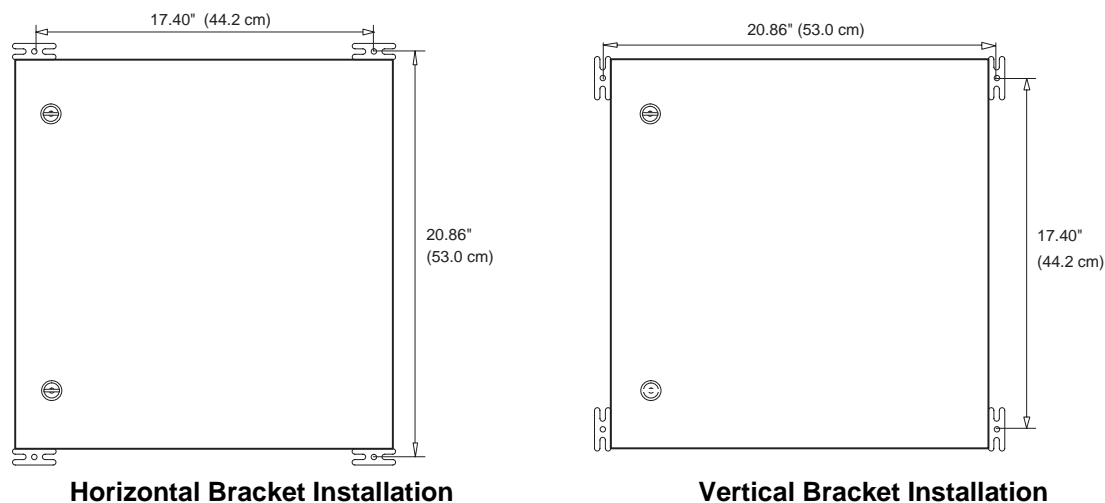
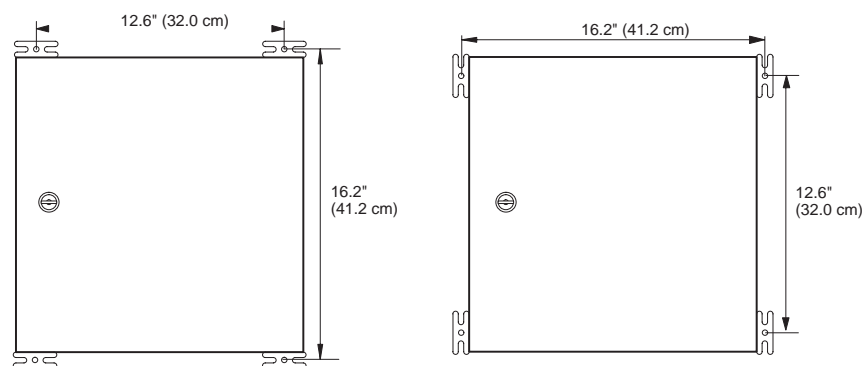
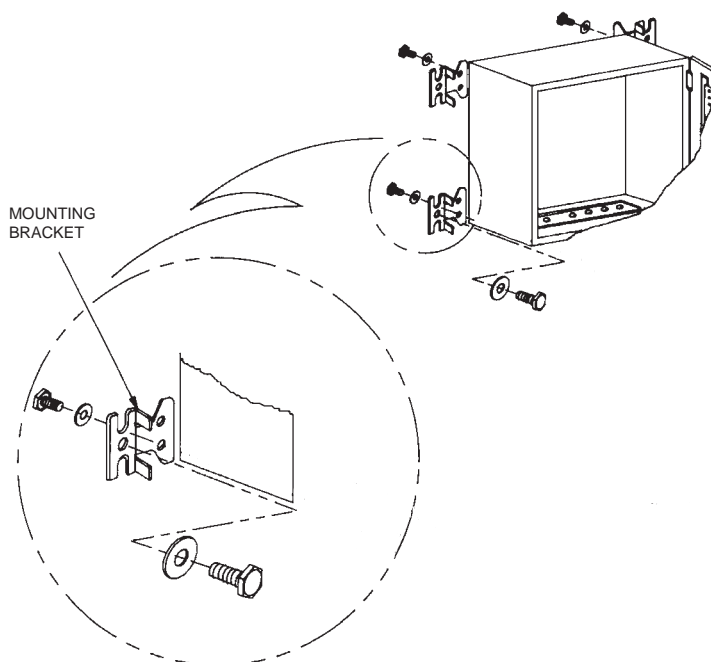

Figure 2-9 Large NEMA 4 Housing - Installation Dimensions
Figure 2-10 Small NEMA 4 Housing - Installation Dimensions
Figure 2-11 Mounting the NEMA 4 Housing
Four mounting brackets are provided, one in each corner of the RTU, for wall mounting the RTU housing (see Figure 2-9 through Figure 2-11). Figure 2-9 and Figure 2-10 show the distances between the bracket holes.
- 1) Drill four holes in the wall at the horizontal and vertical distances shown in Figure 2-9 (for the large housing) and in Figure 2-10 (for the small housing.)
- 2) Using the brackets and the screws supplied in the plastic bag, fasten the mounting brackets, either horizontally or vertically, onto the four back corners of the housing. See Figure 2-11.
- 3) Mount the RTU onto the wall and secure with M4 screws (not supplied) with head size DIN 7981C/ST4, 2x38mm through the bracket hole. See Figure 2-11.